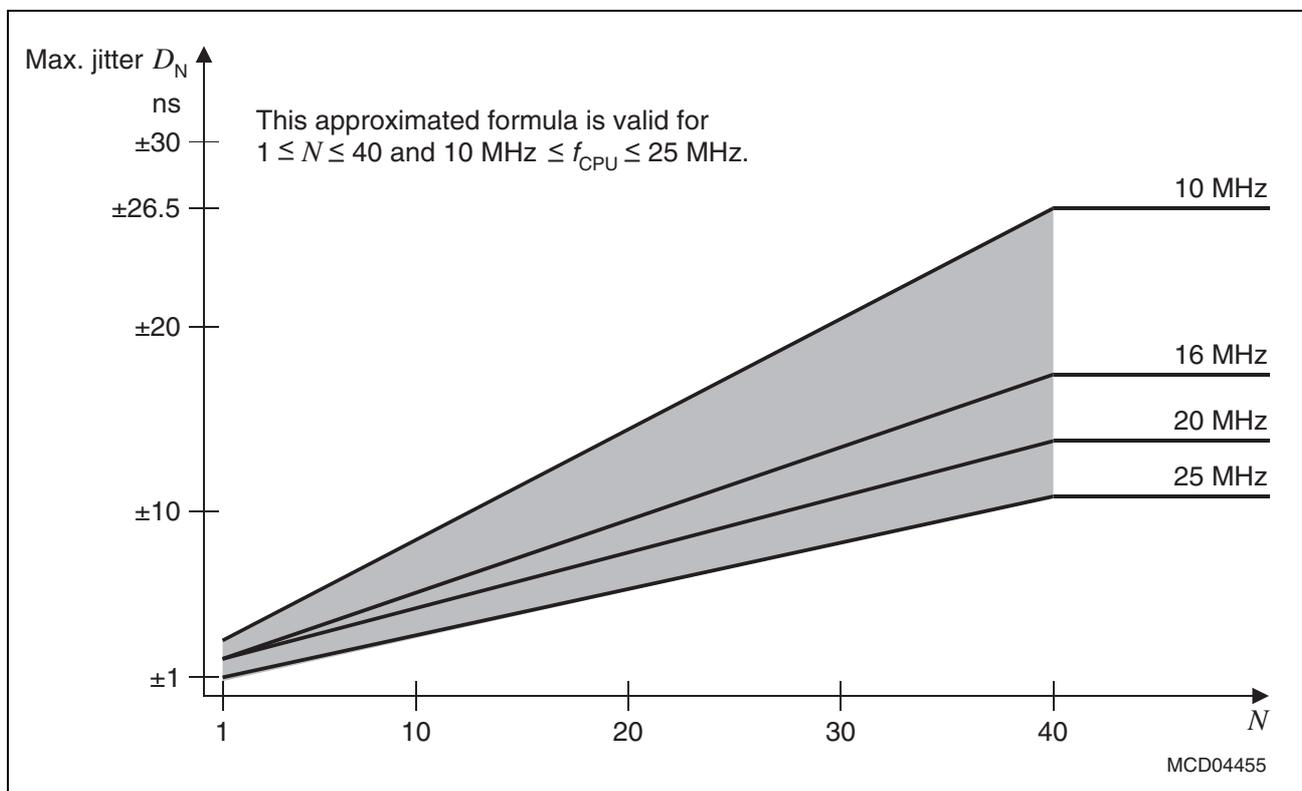

Figure 12 **Approximated Maximum Accumulated PLL Jitter**
The timings listed in the AC Characteristics that refer to TCLs therefore must be calculated using the minimum TCL that is possible under the respective circumstances. The actual minimum value for TCL depends on the jitter of the PLL. As the PLL is constantly adjusting its output frequency so it corresponds to the applied input frequency (crystal or oscillator) the relative deviation for periods of more than one TCL is lower than for one single TCL (see formula and **Figure 12**).
*Note: For all periods longer than 40 TCL the $N = 40$ value can be used (see **Figure 12**).*